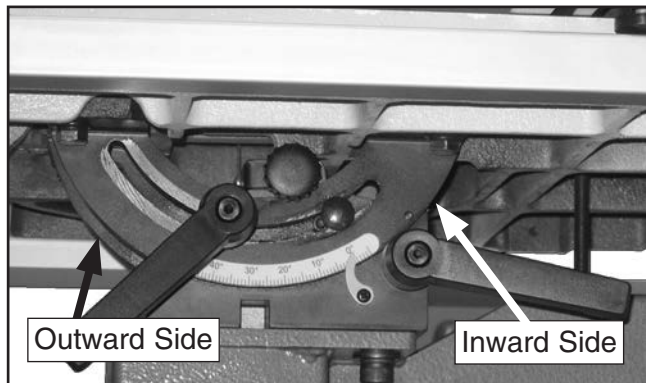

Figure 57. Sides of table trunnions to grease.
2. Wipe the old grease off the bearing surfaces of the table trunnions. Start with the outward side of the table trunnions (**Figure 57**) when the table is at 0°, then tilt the table to 45° and wipe off the inward side. The old grease will be contaminated with wood or metal dust, so you want to remove as much of it as you can.